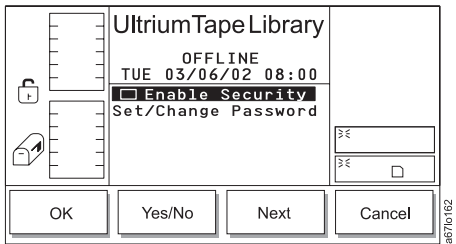

Figure 4-123. Secure Dialog
5. Press the button below the **OK** softkey. The Secure Dialog screen displays (see Figure 4-123 on page 4-76).